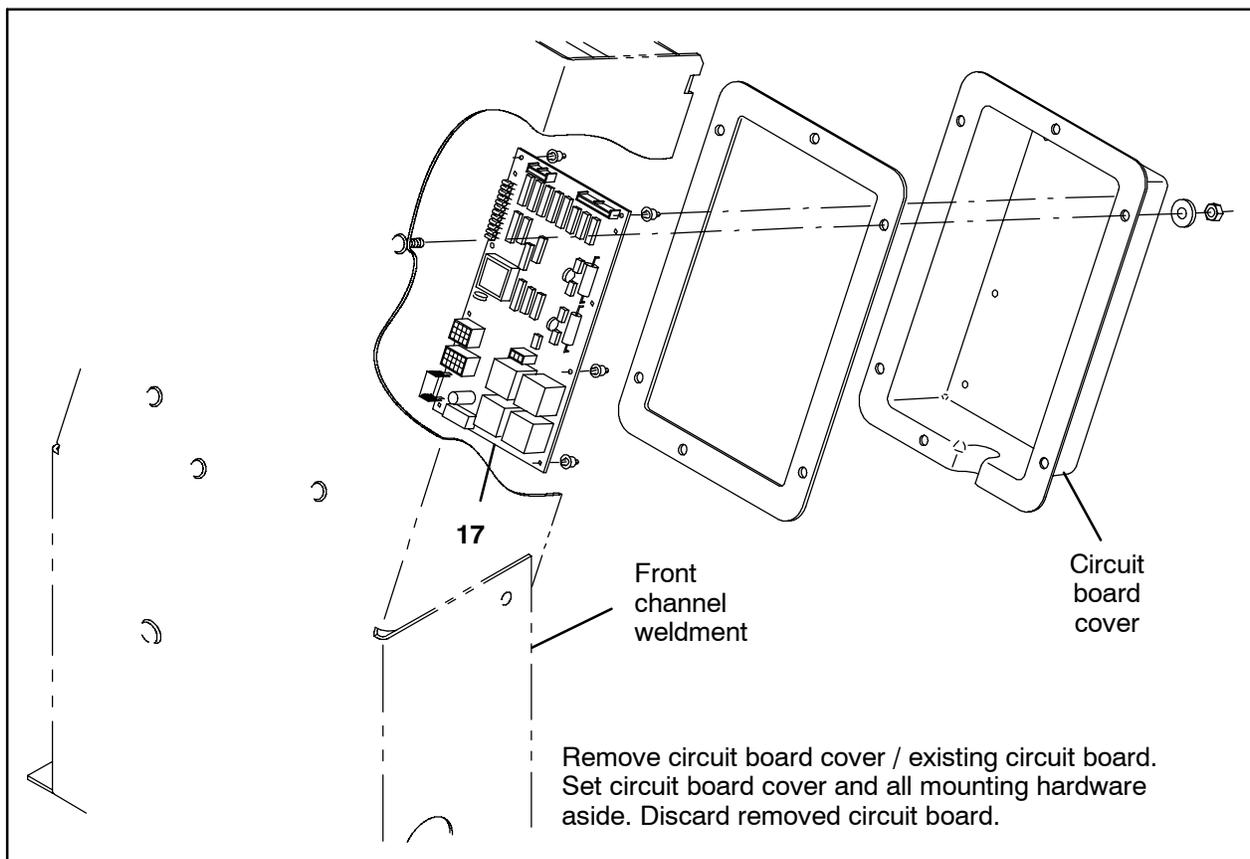

FIG. 10
20. Remove the circuit board cover from the front channel weldment. Set the circuit board cover mounting hardware aside. Refer to Fig. 10.
22. Install the new circuit board (17) into the circuit board cover. Refer to Fig. 10.
23. Reconnect all cables to the the new circuit board (17).
24. Reinstall the circuit board cover onto the front channel weldment. Refer to Fig. 10.